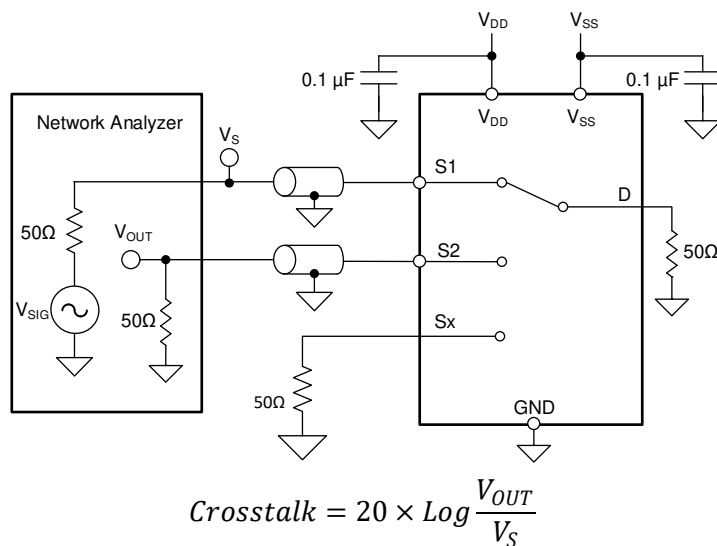

Figure 7-11. Crosstalk Measurement Setup
Crosstalk is defined as the ratio of the signal at the drain pin (D) of a different channel, when a signal is applied at the source pin (Sx) of an on-channel. Figure 7-11 shows the setup used to measure, and the equation used to calculate crosstalk.